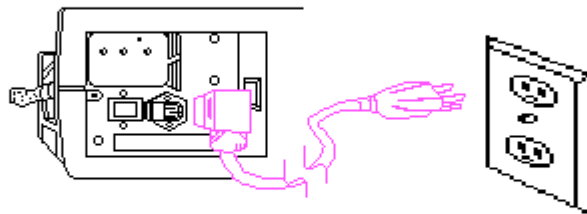

Figure 7.2-2. Disconnecting the Power Cord from the Computer and AC Power Source
4. Disconnect the AC power cord from its power source and from the computer (Figure 7.2-2).